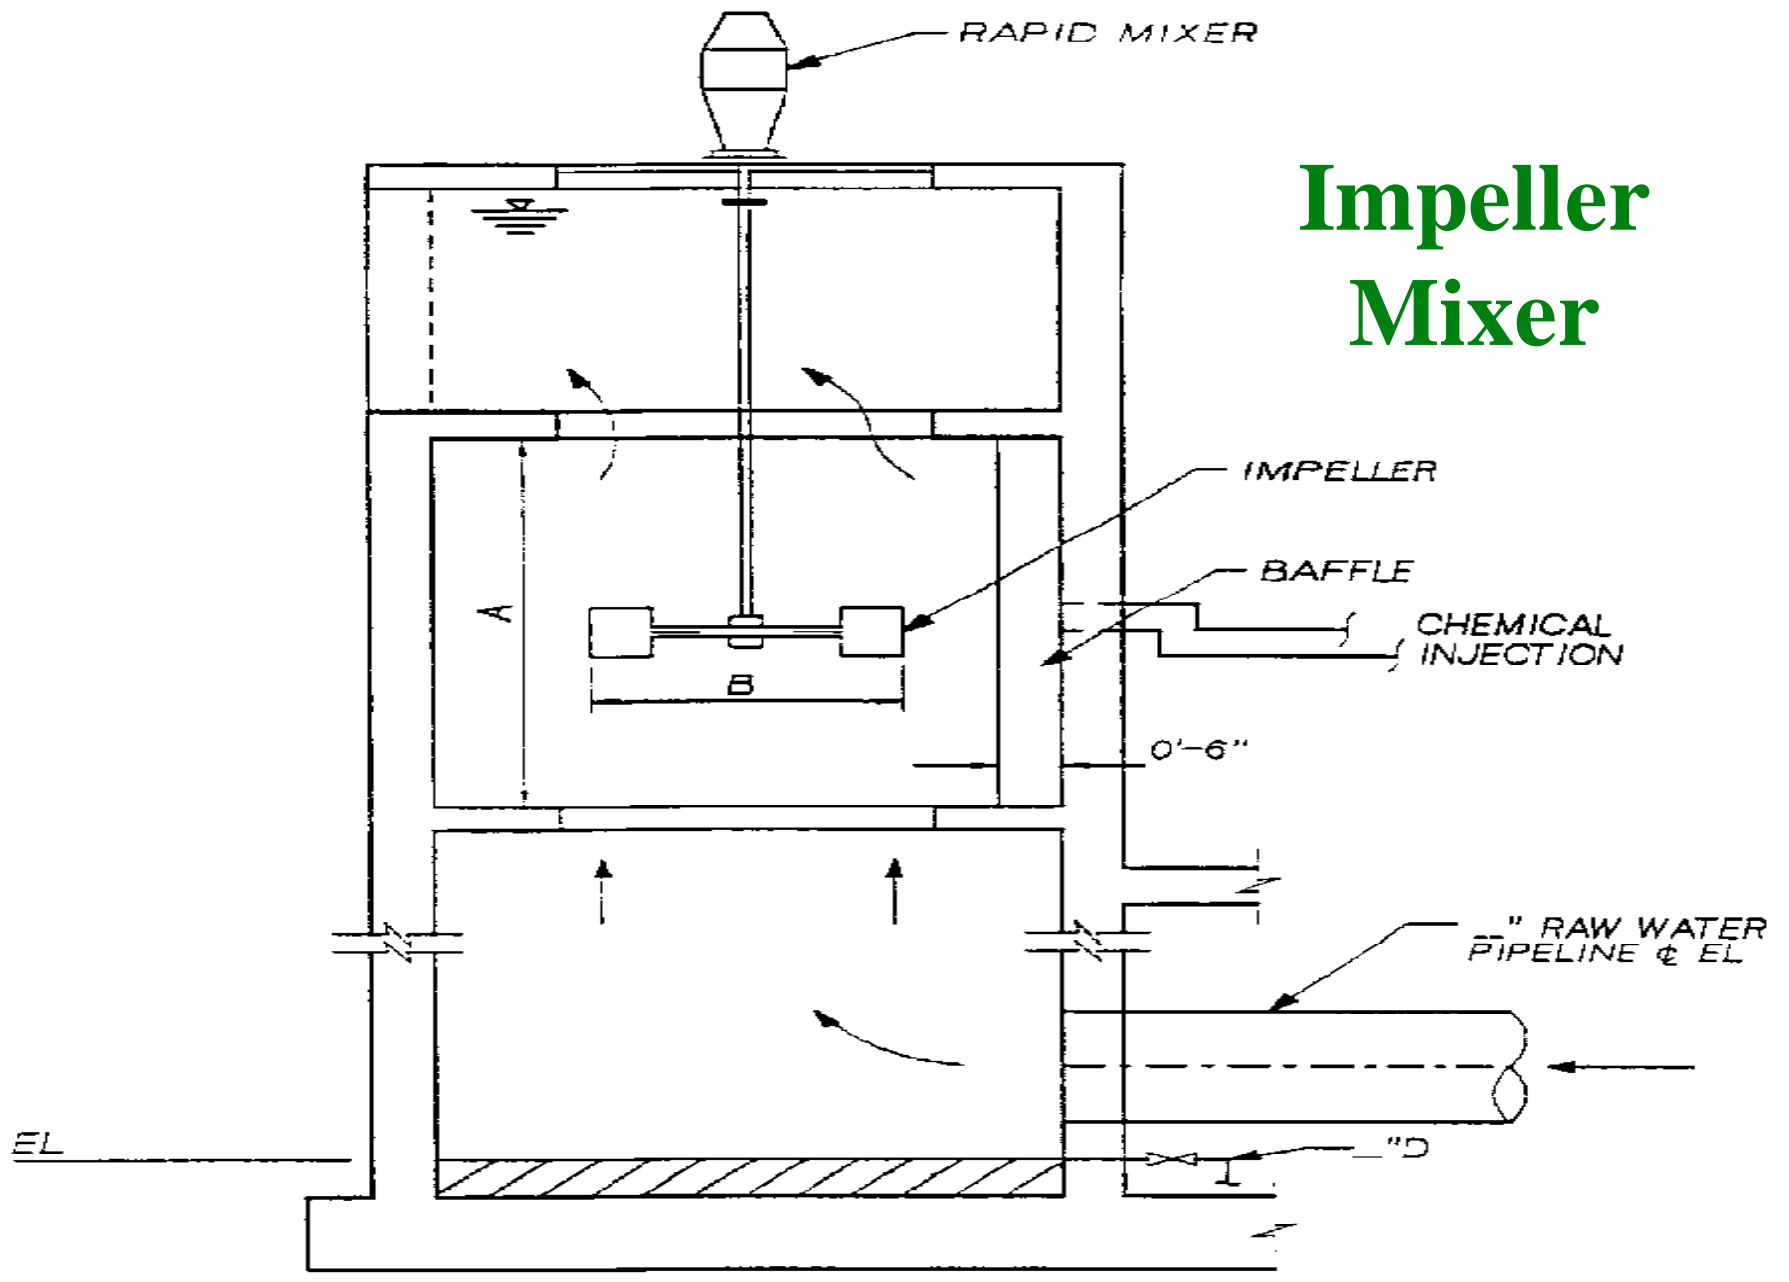

Figure 2.9
- Rapid mixing may also be achieved using hydraulic jump mixing as shown in Figures 2.9 and 2.10.